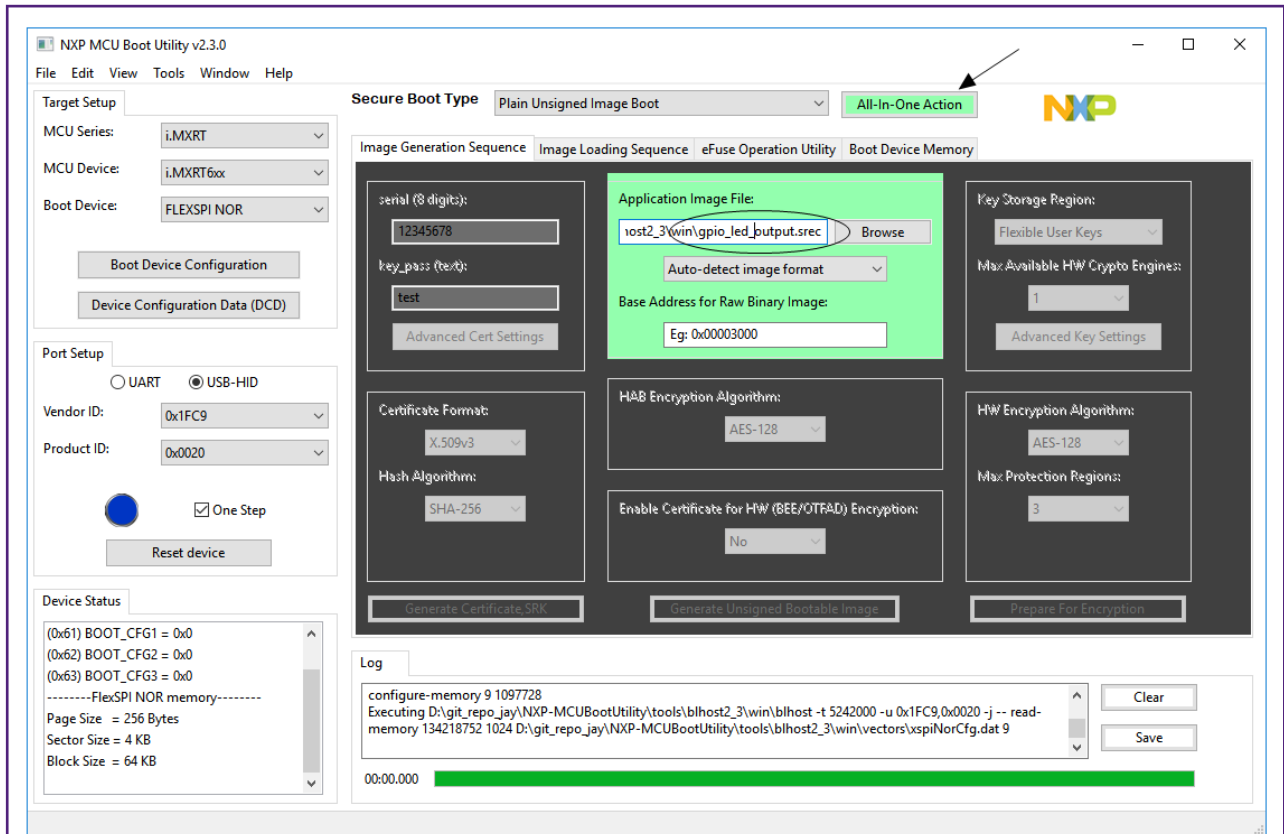

Figure 16. MCUBootUtility running
3. If the tool can connect with RT600 BootROM successfully, the device information will be showed in **Device Status**. Browse the `gpio_led_output.srec` file and click **All-In-One Action**, as shown in Figure 16.